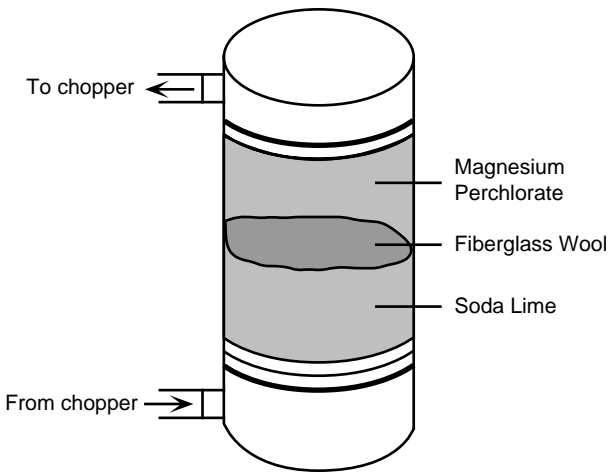

Figure 2-2. Hose attachments to external soda lime/desiccant tube assembly.
**IMPORTANT:** Attach the hoses as shown in Figure 2-2. The hose nearest the soda lime is attached to the **FROM CHOPPER** fitting, and the hose near the magnesium perchlorate is attached to the **TO CHOPPER** fitting. This ensures that  $\text{CO}_2$  is purged first, and then water vapor. If this sequence is reversed, the air will pick up water vapor from the soda lime before being returned to the chopper housing.